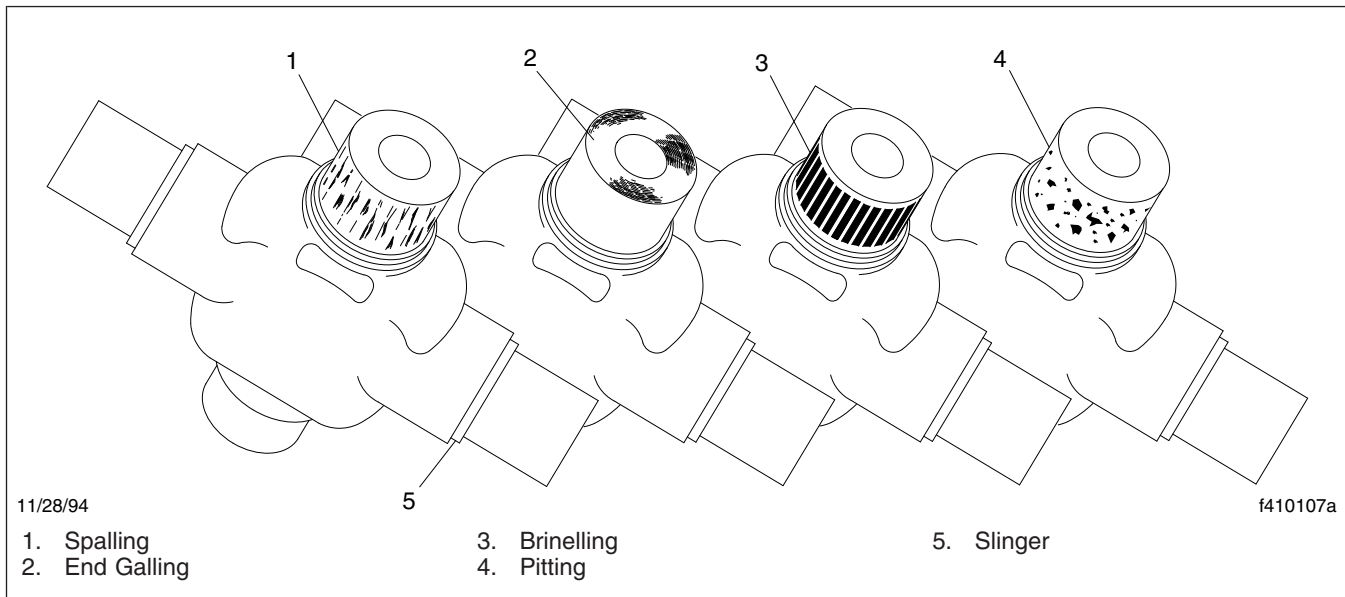

Fig. 8, Damaged U-Joint Crosses
1. With the U-joints removed from the yokes, and the bearing cups removed from the crosses, inspect the U-joint cross slingers for damage, then inspect the U-joint trunnions for spalling (flaking metal), end galling (displacement of metal), brinelling (grooves caused by bearing needles), and pitting (small craters caused by corrosion). See Fig. 8. If damaged, replace the U-joint assembly.